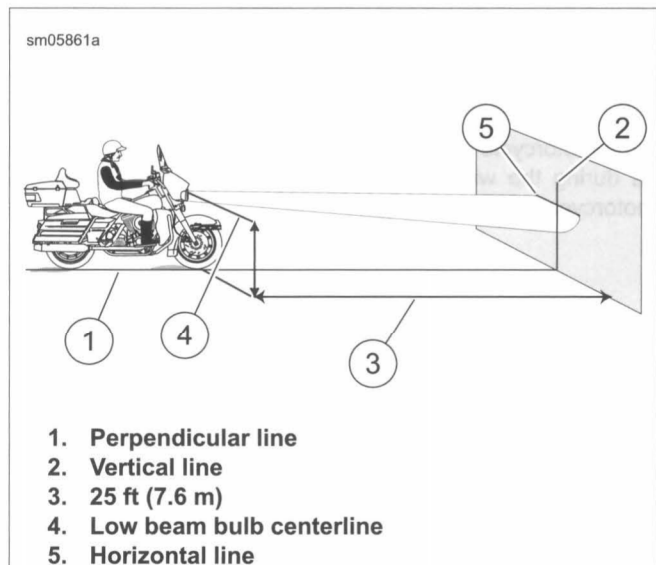

Figure 1-48. Headlamp Alignment: LED Type (typical)
- b. **LED, fork-mounted fairing:** See Figure 1-48. At the measured distance.